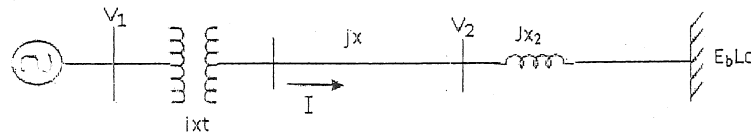

Fig. 1
- (b) A single machine is connected to a load centre through a transmission line as shown in Figure 1. The load centre is represented by a reactance connected to an infinite bus. The generator is initially operating with $P_e=1.0$ p.u. and the magnitudes of voltages V_1 and V_2 are 1.0 p.u. each. Find the maximum step increase in the mechanical power that will not cause transient instability. Use equal area criterion. Assume $x_g=0.5$, $x_t=0.2$, $x=0.4$, $x_2=0.1$